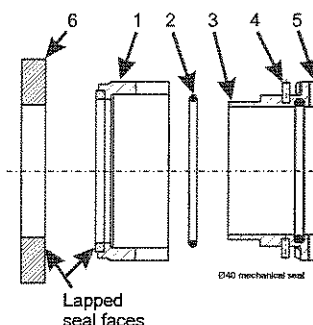
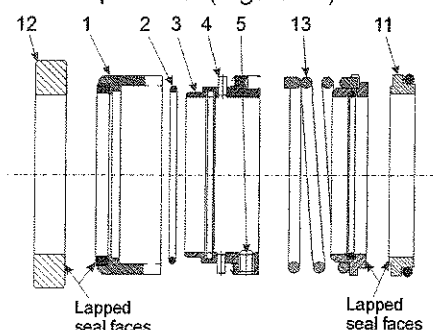
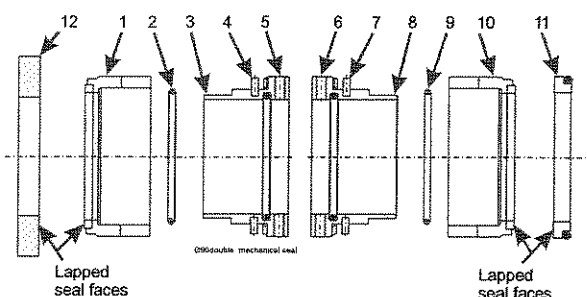
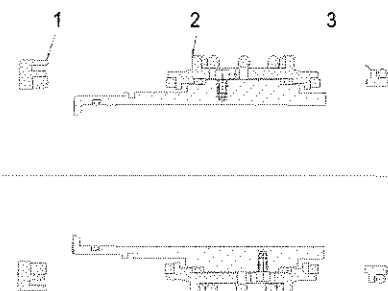

Figure 20 Type 1 single mechanical seal
Figure 21 Type 2 two part double mechanical seal
Figure 22 Type 3 double mechanical seal
Figure 23 Type 4 one piece double mechanical seal
The rear wear plate holds the seal seat retained by a circlip (item 6 in Figure 20). Once the wear plate has been removed the remainder of the mechanical seal is left exposed on the shaft.
Removal of the wear plate exposes the outer seal seat carrier retained by four off cap head socket screws. Removing the screws and carrier exposes the remainder of the mechanical seal on the shaft. The inside face of the seal carrier holds the outer seal seat (item 12 in Figure 21 or Figure 22, item 1 in Figure 23) retained by either a clamping ring held in place by screws.
1) CD75, CD80D & CD80M, CD100M, CD103M, CD150M, CD200M, CD225M, CD250M, HL80, HL100M, HL125MS, HL150M & HL150MHD (Figure 20).
2) CD160M MkII, CD180M, CD300M, HL130M, HL160M & HL250M two part seal (Figure 21).
3) CD160M Mki, CD400M, HL110M & HL200M two part seal (Figure 22).
4) CD300M, HL130M & HL225M one piece double seal Figure 23
Inspect all items for wear. The seal face for type 1, 2 & 3 seals (item 6 in Figure 20; item 12 in Figure 21 or Figure 22) is double sided. It may be reversed when refitted to provide a second wearing face. Replace any damaged parts and renew all O-rings.
- 1) CD75, CD80D & CD80M, CD100M, CD103M, CD150M, CD200M, CD225M, CD250M, HL80, HL100M, HL125MS, HL150M & HL150MHD (Figure 20).
- 2) CD160M MkII, CD180M, CD300M, HL130M, HL160M & HL250M two part seal (Figure 21).
3) CD160M Mk I, CD400M, HL110M & HL200M two part seal (Figure 22).
4) CD300M, HL130M & HL225M one piece double seal (Figure 23)